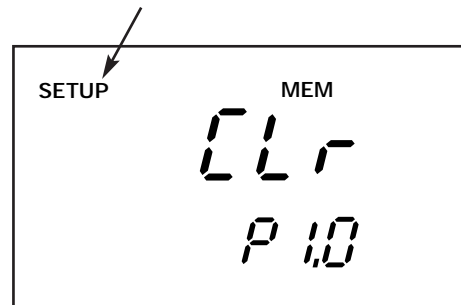

Figure 48
Continue to hold down the **MODE** key while pressing and releasing the **ON** key. The will show the **SETUP** indicator. —See Figure 48. Release the **MODE** key if the **SETUP** indicator is present. If the display indicates you are in the measurement mode (**MEAS** indicator) turn the meter off and try step 2 again until **SETUP** appears.
1. Enter the **SETUP** mode as described above. The meter automatically goes to program **P1.0**. **CLr** appears in the primary display and **P1.0** in the secondary display. —See Figure 48.